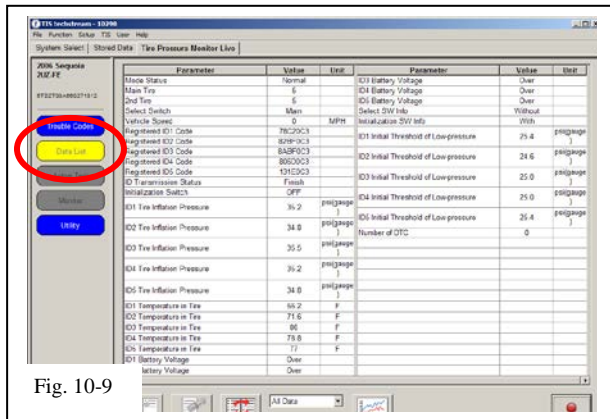

Fig. 10-9
- (l) Select “**DATA LIST**” to view and confirm the TPMS ID numbers have been correctly registered. (Fig 10-9)